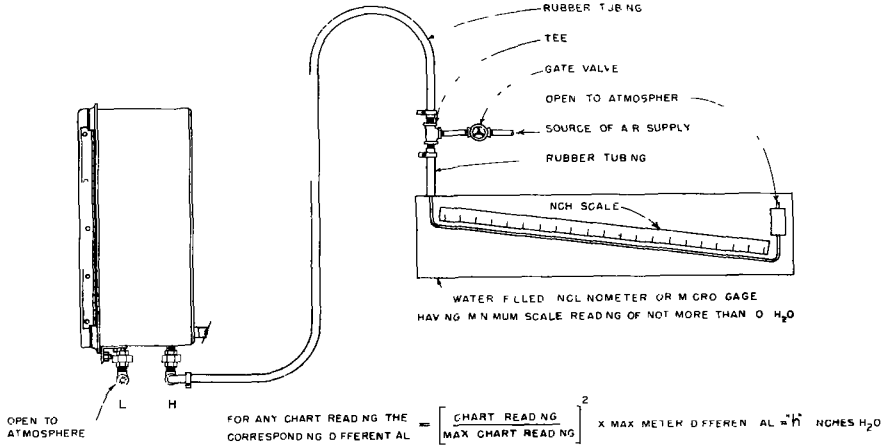

FIGURE 5 Typical Calibration Outfit
2. Connect Recorder or Indicator H connection to a calibration outfit similar to that shown in Figure 5